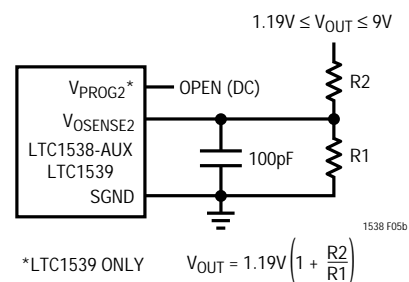

Figure 5b. LTC1538-AUX/LTC1539 Adjustable Applications
(DC) and the  $V_{OSENSE2}$  pin is connected to the feedback resistors as shown in Figure 5b. Controller 2 will force the externally attenuated output voltage to 1.19V.